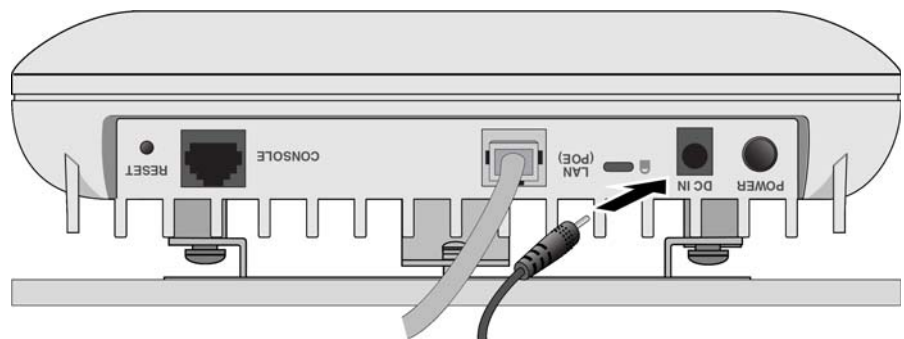

Figure 25. Connecting an AC/DC Power Adapter to the DC IN Connector
2. Plug the DC cable from the power adapter into the DC IN connector on the wireless access point. Refer to Figure 25.